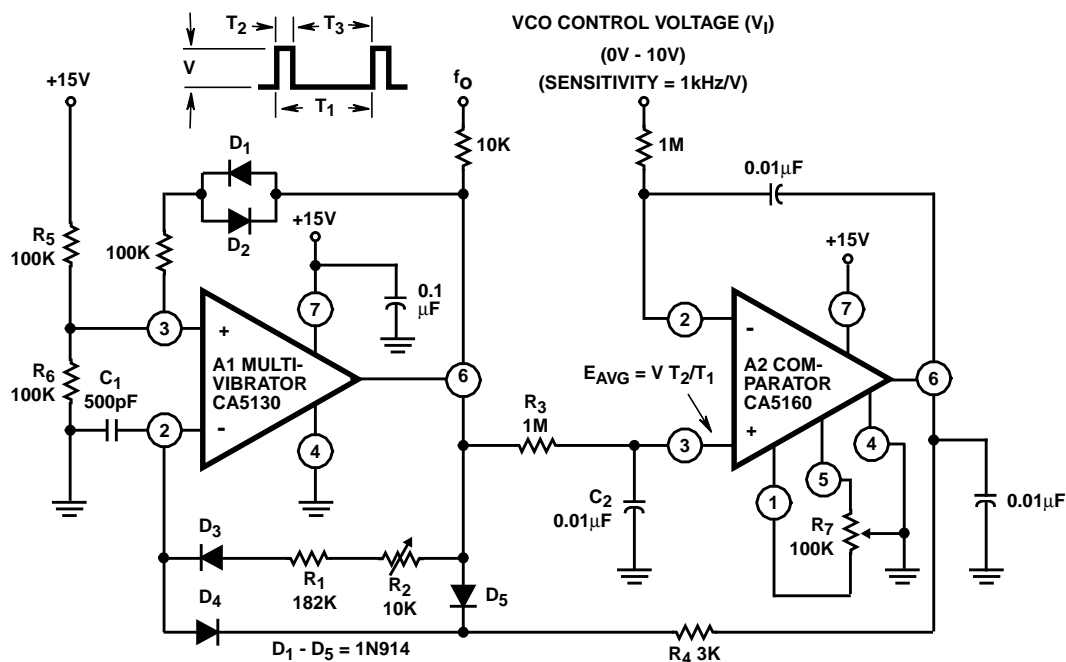

FIGURE 10. VOLTAGE CONTROLLED OSCILLATOR
The circuit diagram of a precision voltage-controlled oscillator is shown in Figure 10. The oscillator operates with a tracking error on the order of 0.02% and a temperature coefficient of 0.01%/°C. A multivibrator (A_1) generates pulses of constant amplitude (V) and width (T_2). Since the output (Terminal 6) of A_1 (a CA5130) can swing within about 10mV of either supply-rail, the output pulse amplitude (V) is essentially equal to V_+ . The average output voltage ($E_{AVG} = V T_2/T_1$) is applied to the non-inverting input terminal of comparator A_2 (a CA5160) via an integrating network R_3, C_2 . Comparator A_2 operates to establish circuit conditions such that $E_{AVG} = V_1$. This circuit condition is accomplished by feeding an output signal from Terminal 6 of A_2 through R_4, D_4 to the inverting terminal (Terminal 2) of A_1 , thereby adjusting the multivibrator interval, T_3 .